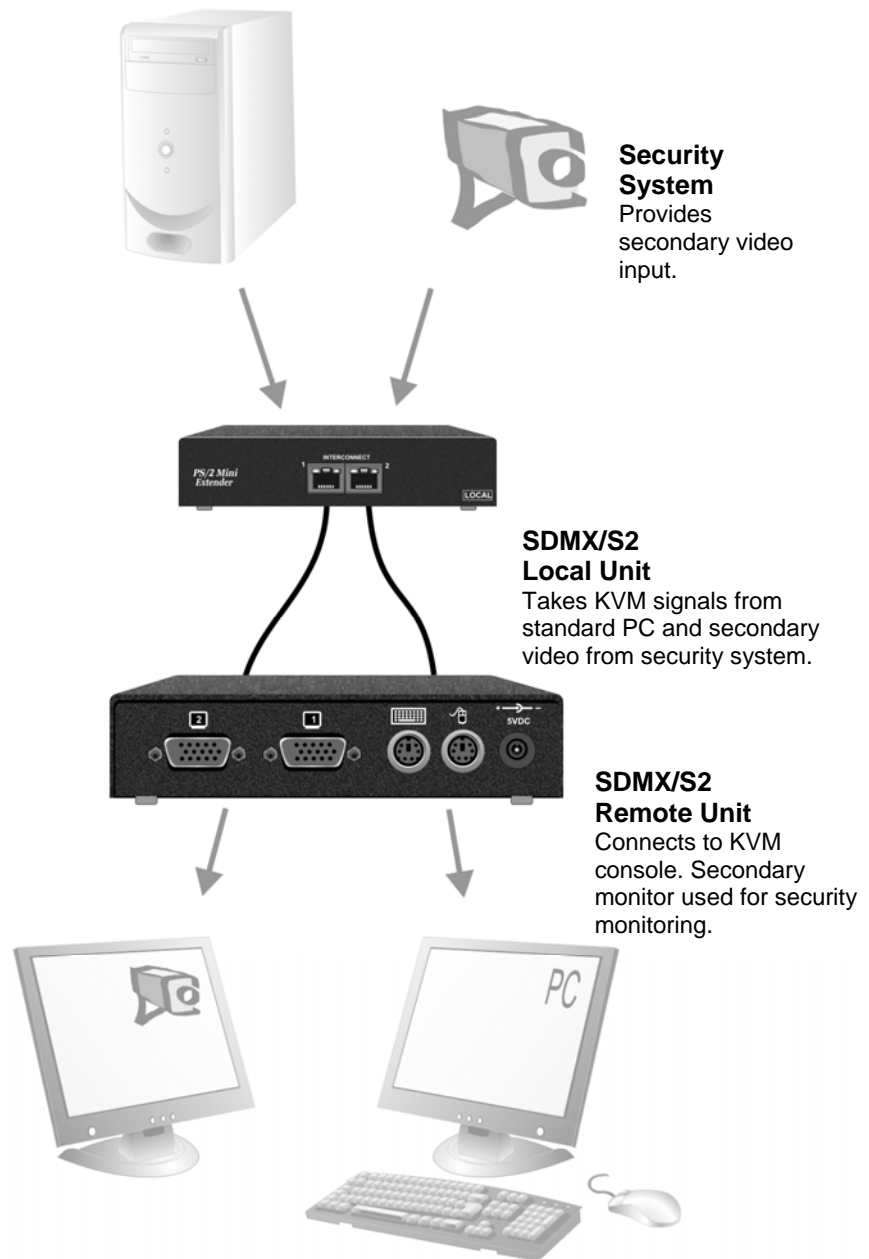

Figure 9 Extender system using SDMX/S2 kit with second screen for security monitoring
- Extender system with second screen for security monitoring (Figure 9). Requires one SDMX/S2 kit.